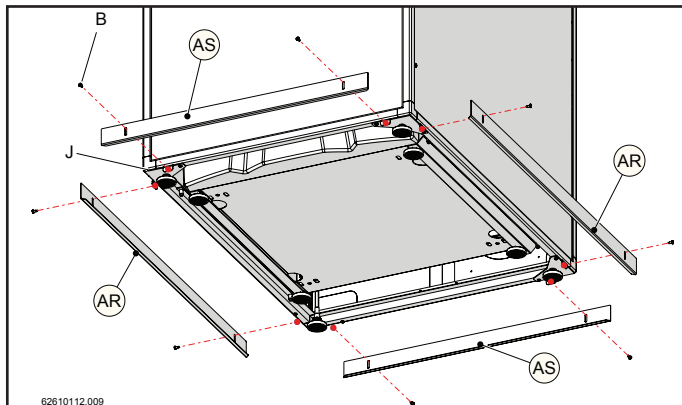

Figure 15-30
- 16.- Finally, attach metal sheets (AR) and (AS), using screws "B", to the lower framework "J"; as shown in figures 15-30 and 15-31.